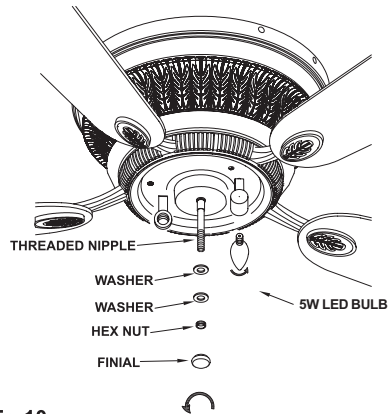

Fig.10
Step 3. Install 2-5W LED bulbs(included).(Fig.10)
nipple. (Fig. 10).